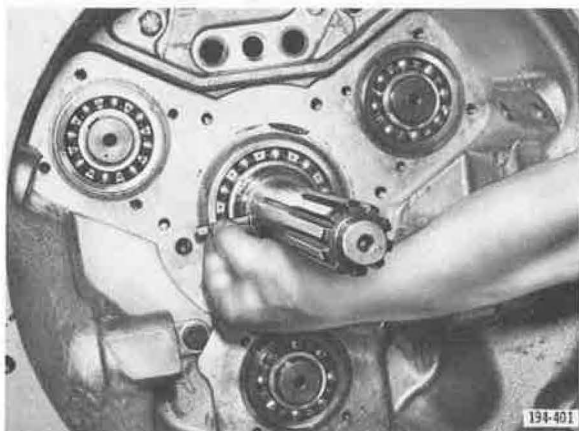

Figure 374. Installing Pump Vane
10. Place oil pump vane into its bore in the compound main drive pinion. See Figure 374.